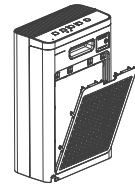

Fig.1
1. Open the back cover (see fig.1)